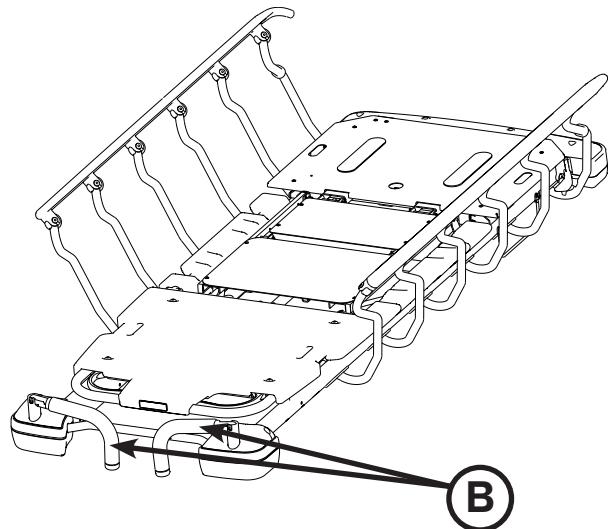

Figure 9.2: Push Handles Stored
To store the push handles, lift the handles (B) up and pivot them down to store in the handle rests (Figure 9.2).